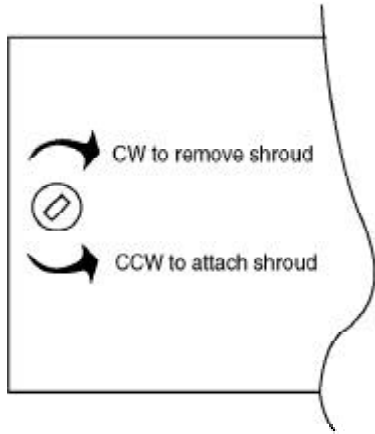

Figure 14: View of Shroud Screw
2. Pull shroud or gun cover straight off the gun exposing the trigger/dump and barrel assemblies. (See Figure 14.)